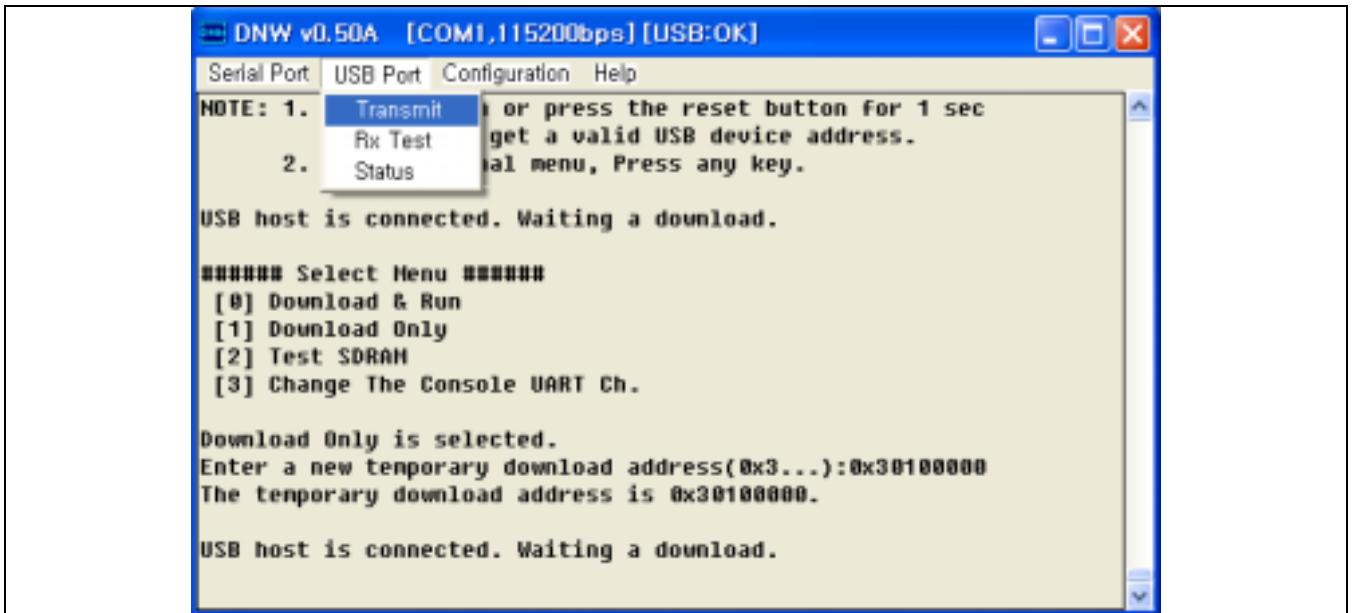

Figure 3-7. DNW Window (for USB Downloading)
7. Select USB Port on the system menu of the DNW and click Transmit to download a target image (See Figure 3-7).